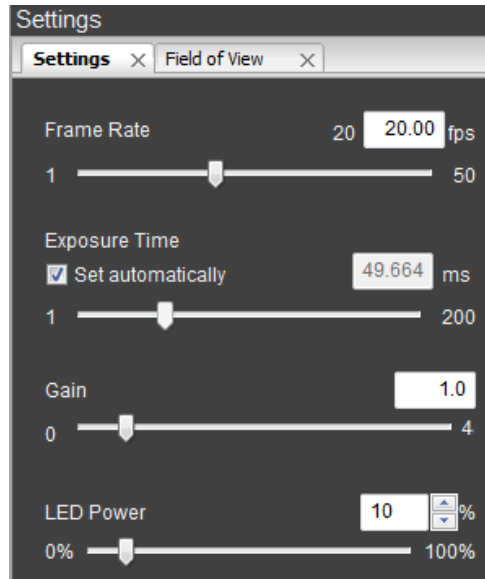

Fig 7-32. Settings window
This window sets the basic image acquisition settings here. The default settings are: frame rate (20 fps), exposure time (50 milliseconds), gain (1) and LED power (10%). This panel is shown in Fig 7-32.